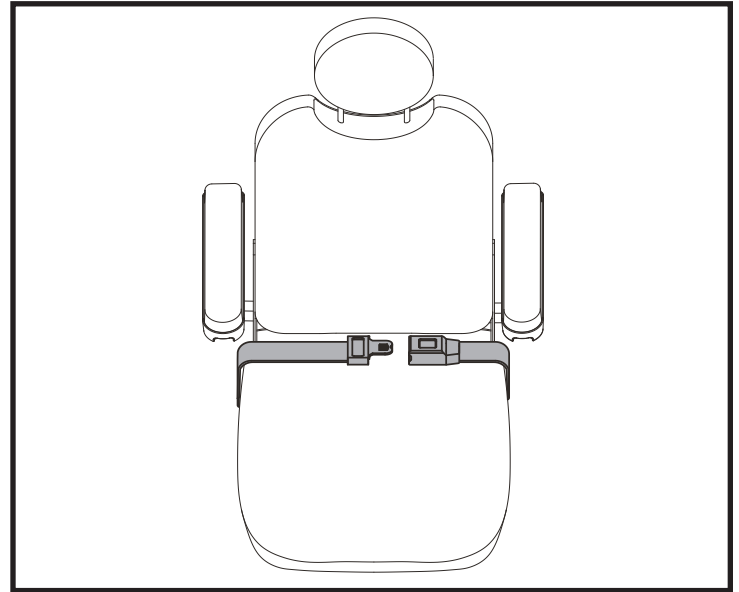

Figure 21. Positioning Belt Adjustment
Your power chair may be equipped with a positioning belt that can be adjusted for operator comfort. See **figure 21**. The positioning belt is designed to support the operator so that he/she does not slide down or forward in the seat. The positioning belt is not designed for use as a restraining device.
1. Once seated, insert the metal tab on one side of the belt into the plastic housing on the opposite side until you hear a click. See **figure 21**.